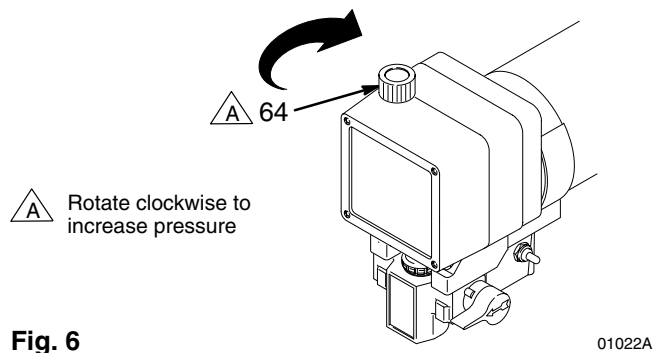

Fig. 6
The pressure control controls the motor operation so the sprayer maintains constant fluid pressure at the pump outlet. Turn the pressure control knob (64) fully counterclockwise to obtain the minimum setting. Turn the knob clockwise to increase pressure. See Fig. 6.